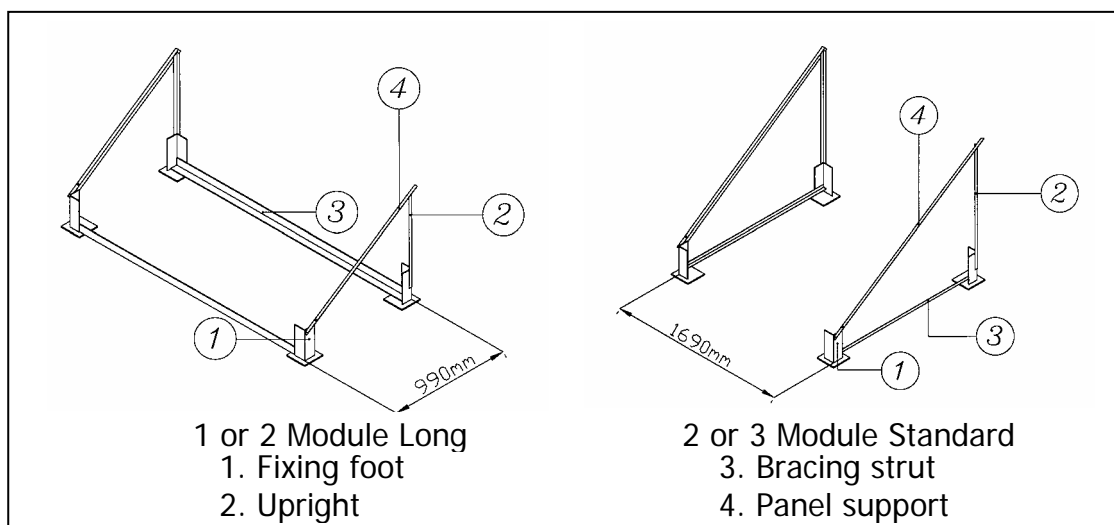

Figure 4.1
4.1.1 Assemble the relevant frame, as shown in Figure 4.1 below, using the supplied nuts, bolts and washers (additional assembly instructions may be found in the frame shipping box).